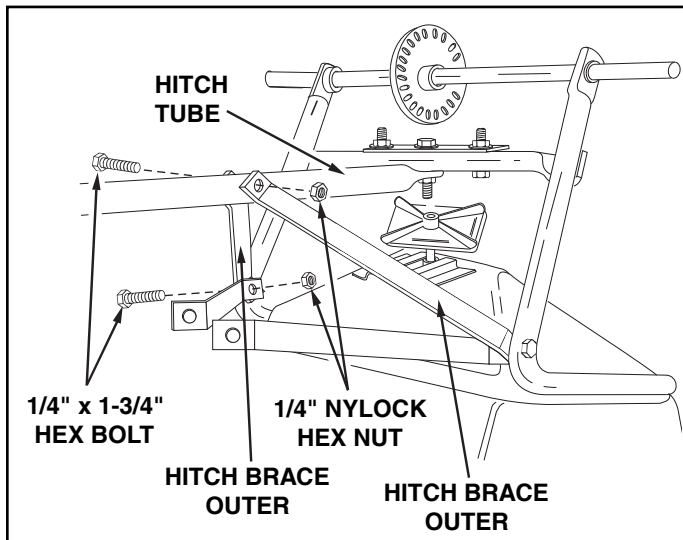

FIGURE 2
- Assemble two hitch braces per side to the inside of the hopper frame using a 1/4" x 1-3/4" hex bolt and 1/4" hex lock nut on each side. **DO NOT TIGHTEN YET.** See figure 2.
- Assemble the **OUTER** hitch braces to the hitch tube using a 1/4" x 1-3/4" hex bolt and a 1/4" nylock hex nut. **DO NOT TIGHTEN YET.** Do not assemble the inner hitch braces at this time. See figure 2.